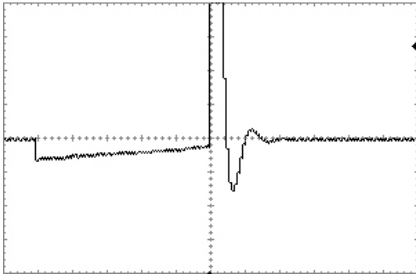

Fig.10
- ◆ **Dmp Sc2** (moderate damping) (see Fig.10);